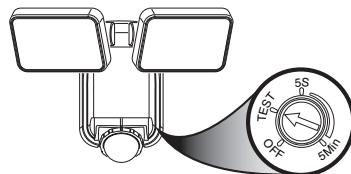

Figure 9
**IMPORTANT:** Turn the control dial on the side of the sensor to the OFF position and allow the battery to charge with 3 to 7 days of full sunshine before testing (see Figure 9).
1. Turn the control dial to the TEST position (see Figure 9).